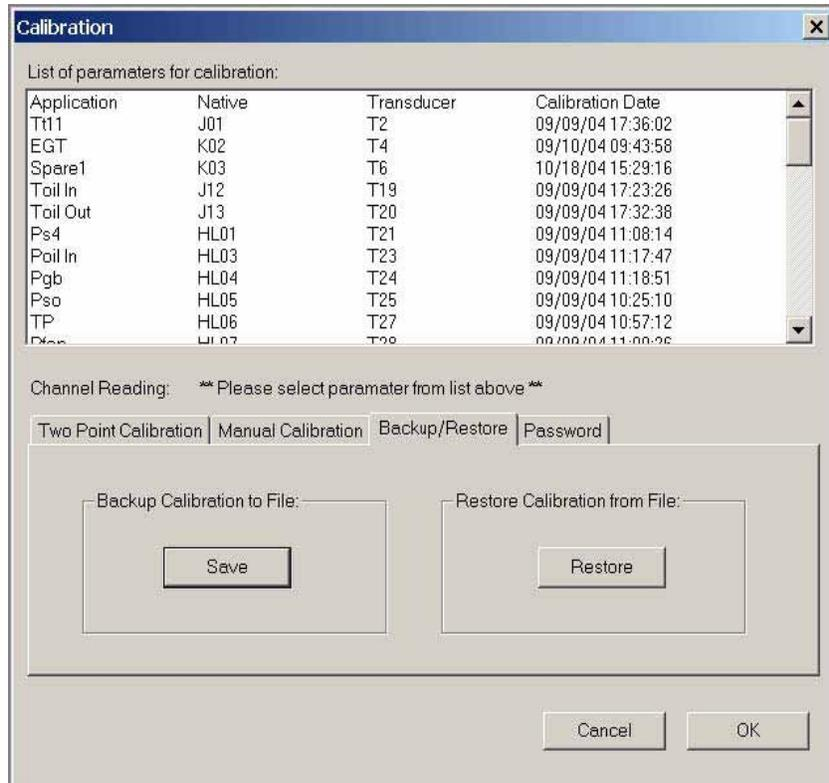

Figure 10. Calibration Save/Restore
- (1) Perform the procedures of Section B.
- (2) Select the channel to be calibrated and double click.
- (3) Click the Manual Calibration tab.
- (4) To save a calibration, click the Backup/Restore tab of the calibration screen. The screen will appear similar to Figure 10.